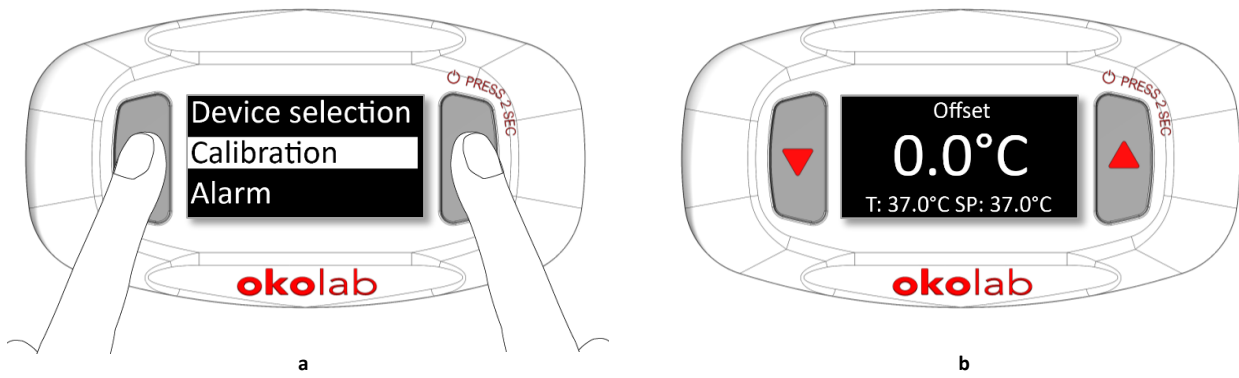

Figure 22. Calibration. (a) How to enter the calibration menu (b) Calibration menu.
8. Press UP & DOWN buttons at the same time for 1 second to enter the Calibration page (see Figure 22 a), the page shown in Figure 22 b will appear.
**Tip** ► In the Calibration page you can read the Offset value, the Device Temperature current value (T) and the Device Temperature Setpoint (SP).